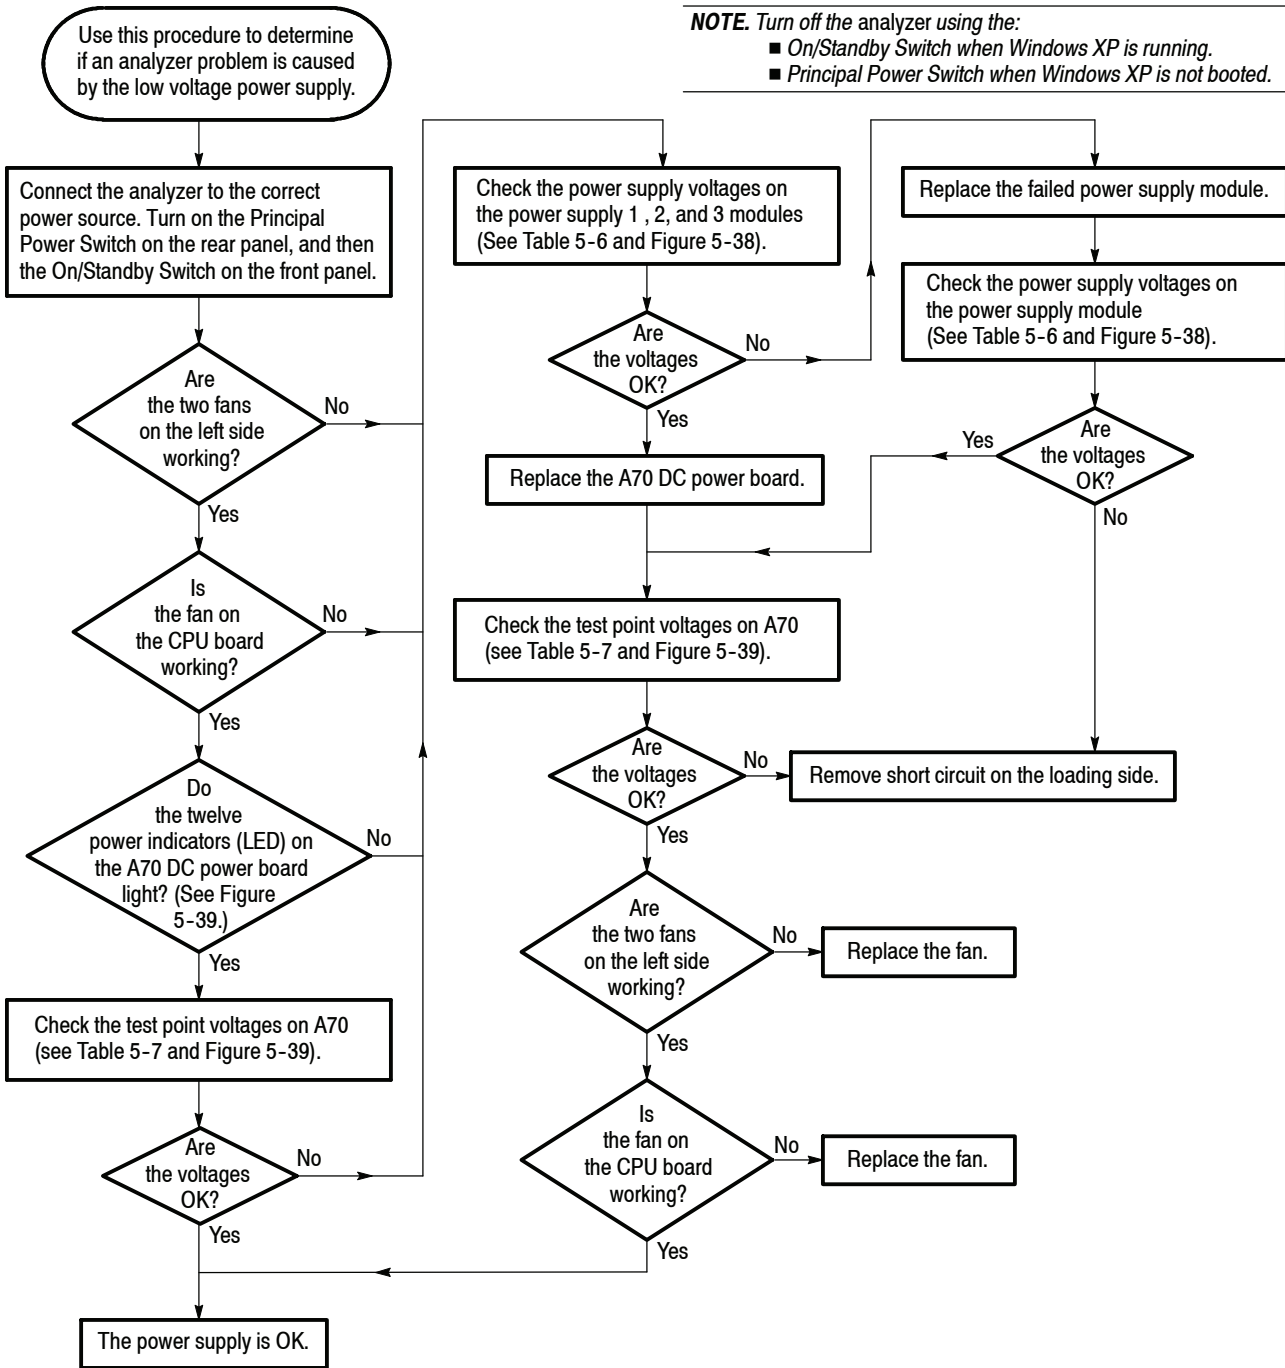

Figure 5-34: Troubleshooting procedure 1 — Power supply system
- Figure 5-34: Troubleshooting Procedure 1 — Power supply system